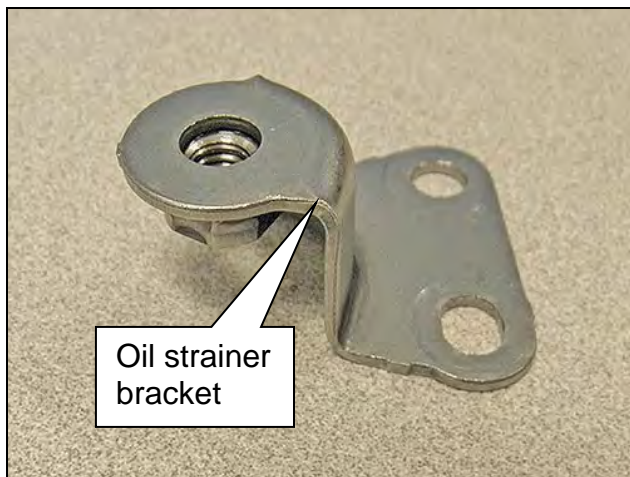

Figure 18
1. Discard the oil strainer bracket (Figure 18).